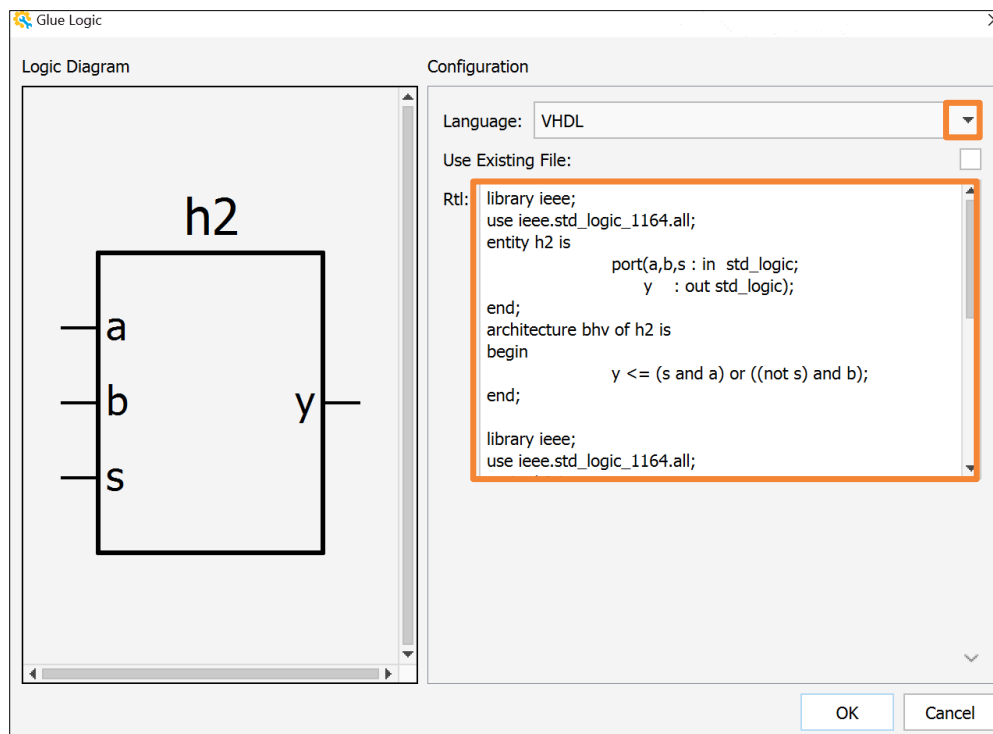

Figure 2.58. Glue Logic Wizard for RTL Module
1. From the IP Catalog, select the RTL module. Double-click the RTL module or drag and drop the RTL module to the Schematic view. A Glue Logic wizard pops up (Figure 2.58). Glue Logic supports both Verilog HDL and VHDL. You can use the drop-down menu to choose a desired language.
2. You can edit your own RTL module in the **RTL** area by entering the RTL module function (Figure 2.58).